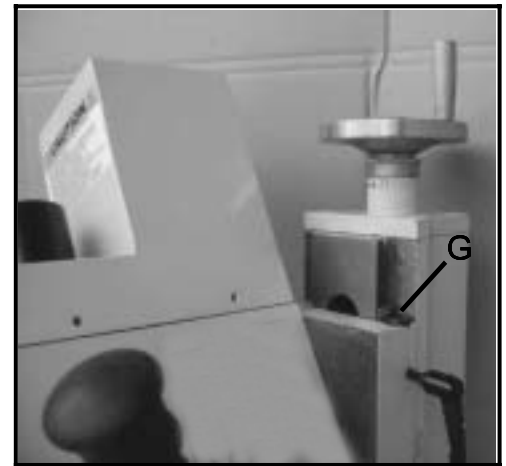

Fig. 58
1. The vertical gib adjustment screw (G, Fig.58) is found onto the column.